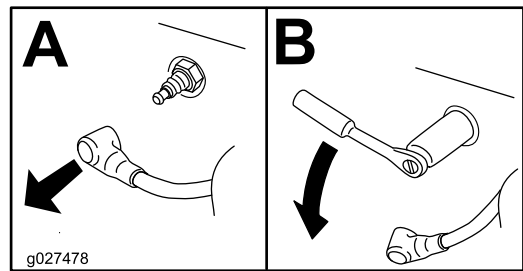

Figure 19
- Remove the spark plug(s) as shown in Figure 19.